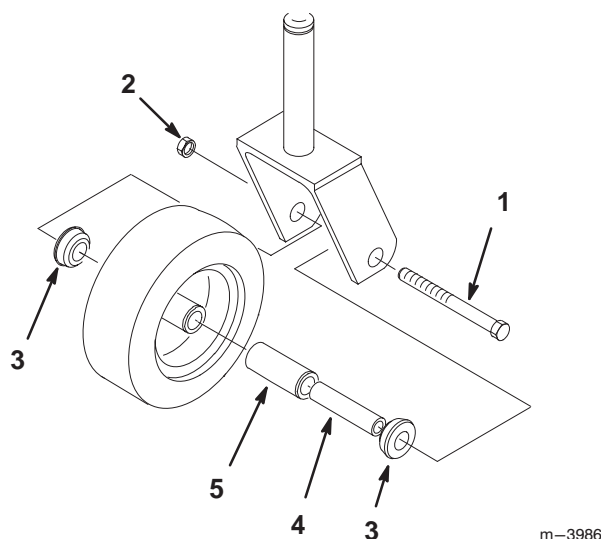

Figure 61
1. Remove the locknut and wheel bolt holding the castor wheel to the castor fork (Fig. 61).
2. Remove one bushing, then pull the spanner bushing and roller bearing out of the wheel hub (Fig. 61).
3. Remove the other bushing from the wheel hub and clean any grease and dirt from the wheel hub (Fig. 61).
4. Inspect the roller bearing, bushings, spanner bushing and inside of the wheel hub for wear. Replace any defective or worn parts (Fig. 61).
5. To assemble, place one (1) bushing into the wheel hub. Grease the roller bearing and spanner bushing and slide them into the wheel hub. Place the second bushing into the wheel hub (Fig. 61).
6. Install the castor wheel into the castor fork and secure with the wheel bolt and locknut. Tighten the locknut until the spanner bushing bottoms against the inside of the castor forks (Fig. 61).